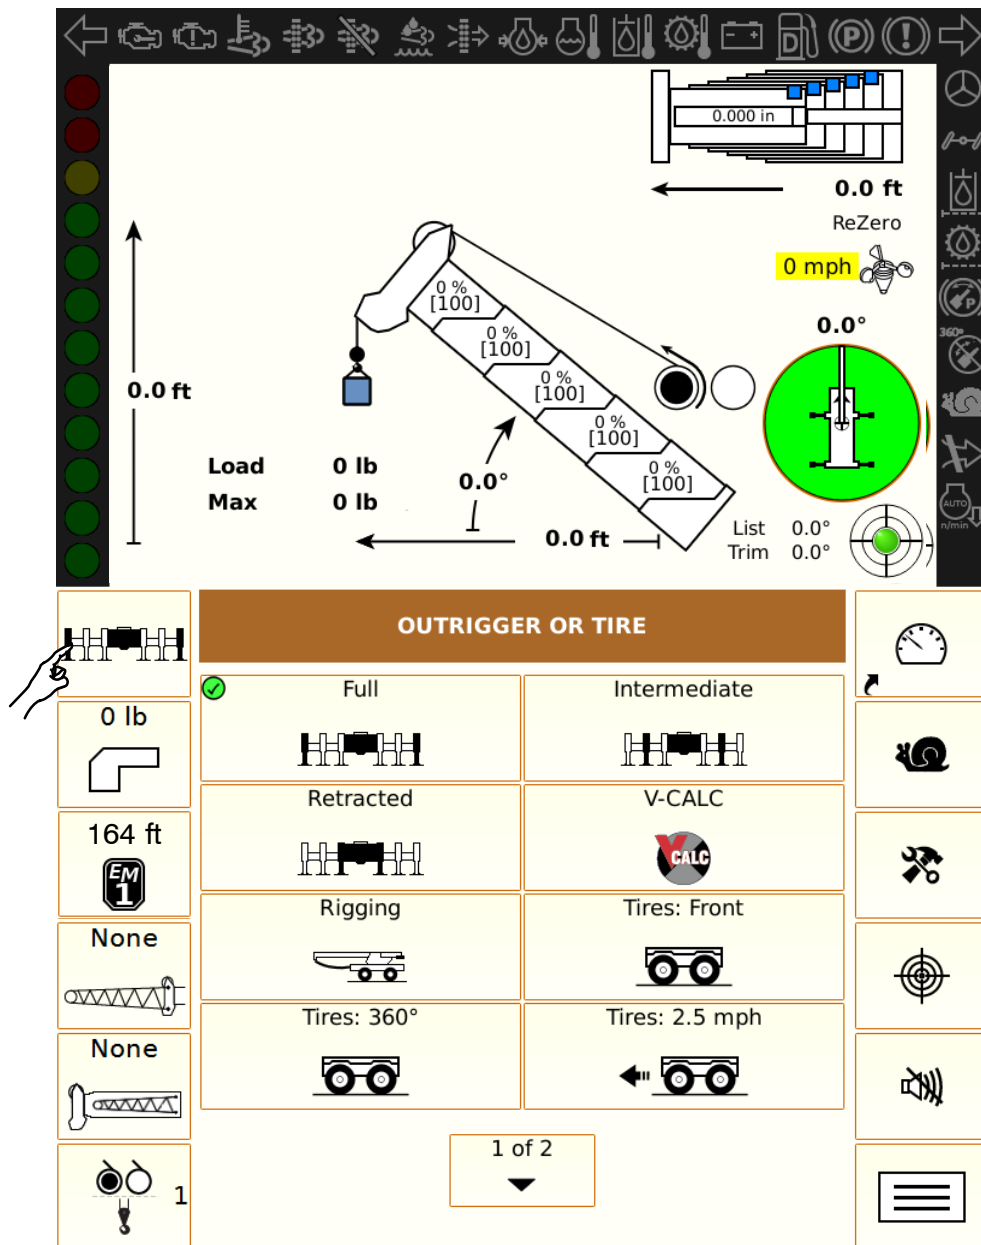

Figure 1-97
2. The Outrigger Or Tire Menu will appear. The activation icon will be present on the button of the previously selected configuration. Press the Page Toggle Button to toggle between pages, as required. Refer to Figure 1-97 and Figure 1-98.